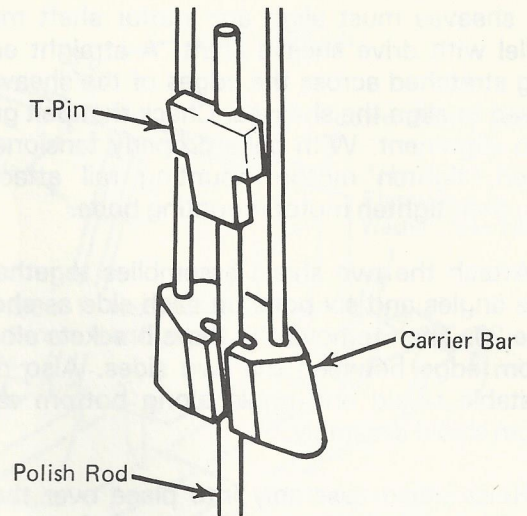

Figure 24
30. With carrier bar positioned in relation to the bottom hole pump, install carrier bar over polish rod and secure with T-pin (from box of parts). See figure 24. Drive T-pin downward to secure it, then install rod clamps above it to further secure it. Remove rod clamp that was initially installed above well head stuffing box to secure the pump rod. Then check alignment of polish rod with wireline track over horsehead.